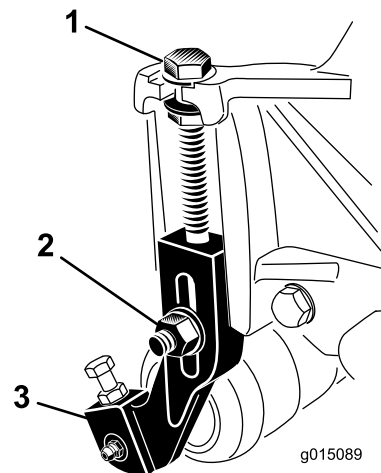

Figure 16
1. Loosen the locknuts securing the height-of-cut brackets to the cutting-unit side plates (Figure 16).